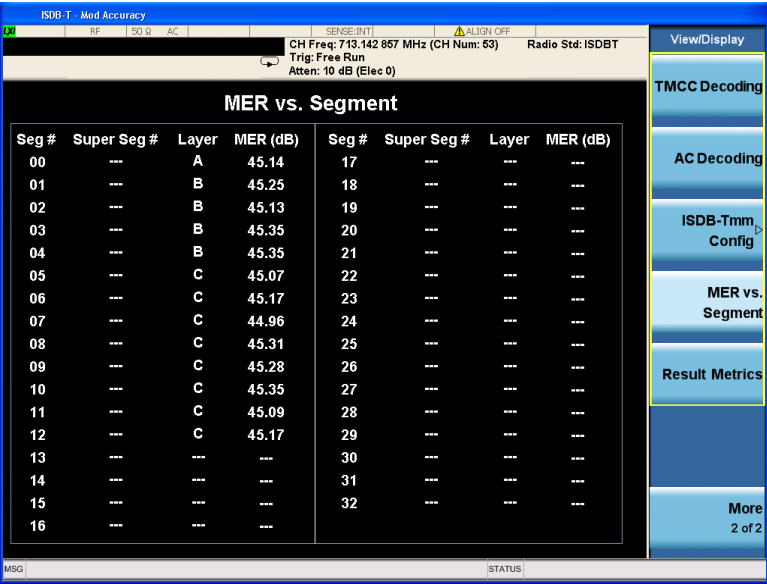

Figure 18. Modulation accuracy measurement with MER vs. Segment view
View the MER vs. Segment results (Figure 18)	[View/Display] {MER vs. Segment}
- **MER vs. Segment** view (Figure 18): This view displays the MER result of each segment. The segment indexes numbered 13 to 32 are designed for ISDB-Tmm signals, so when the signal under test is an ISDB-T signal, the MER results for these indexes are all displayed as “---”.